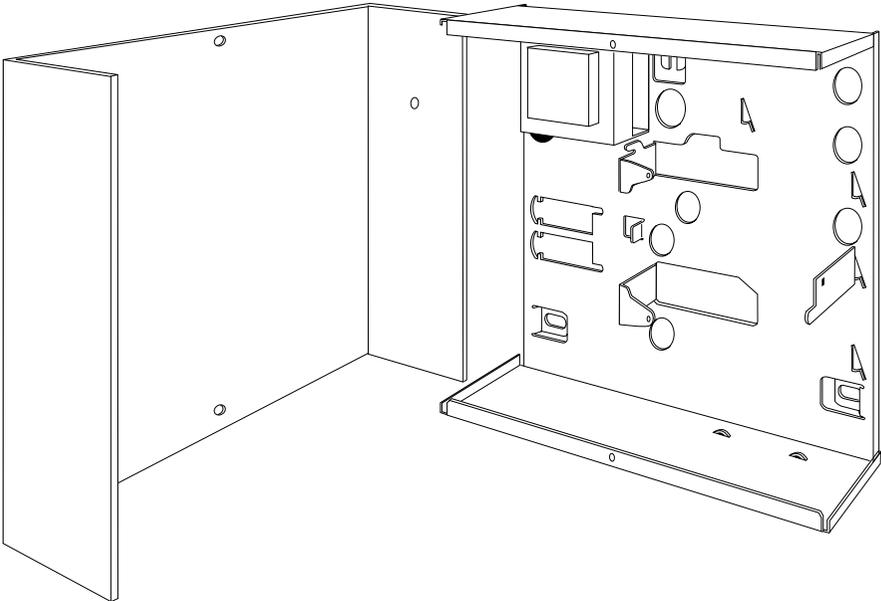

Figure 4. Control Unit Case
Figure 4 shows the control unit case open.
- (a) Over two thirds of burglars gain entry through the front or back doors. Figure 4 shows magnetic door contacts fitted to the front and back doors to detect when the doors have been forced. In addition, the system will not set if a door contact is open, prompting the user to check and close doors or windows before setting. The front door is connected to the Entry/Exit Zone (EE), the back door to Zone 2.